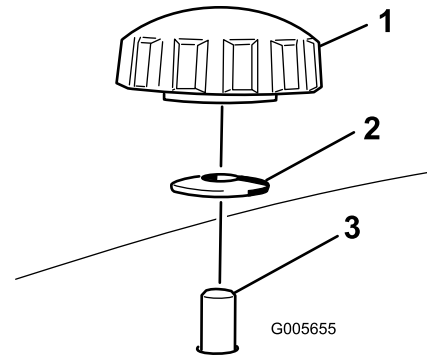
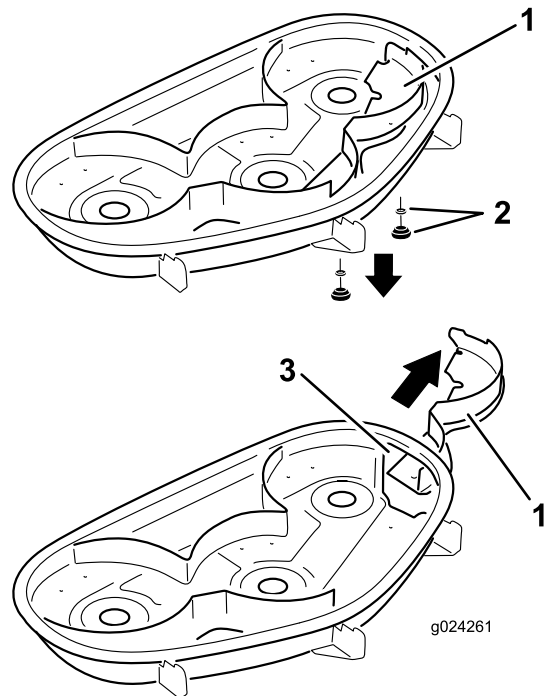

Figure 23
Figure 24
4. Remove the 2 knobs and curved washers that secure the right baffle to the mower (Figure 23).
5. Remove the right baffle and lower the grass deflector over the discharge opening as shown in Figure 23 and Figure 24.
5. Slide the right baffle under the mower deck, and secure it using 2 knobs and the curved washers (cupped side facing the mower) as shown in Figure 23 and Figure 24.